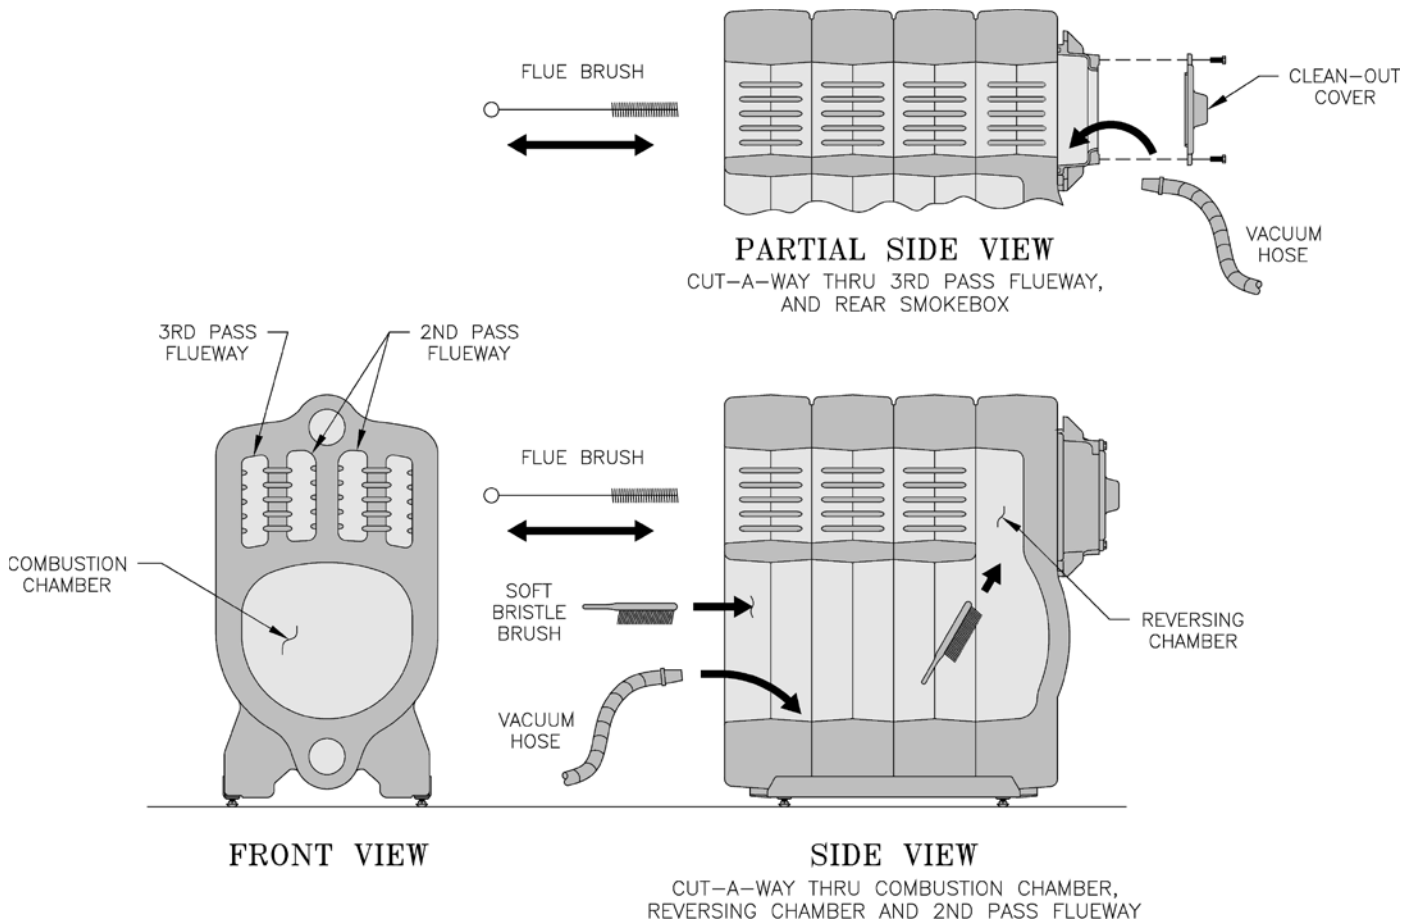

Figure 35: Cleaning of Boiler Flueways
A. CLEAN THE FLUEWAYS (See Figure 35).
1. For access to the combustion chamber remove the two (2) 3/8" - 16 cap screws. If boiler is equipped with flexible fuel line(s), swing door open.